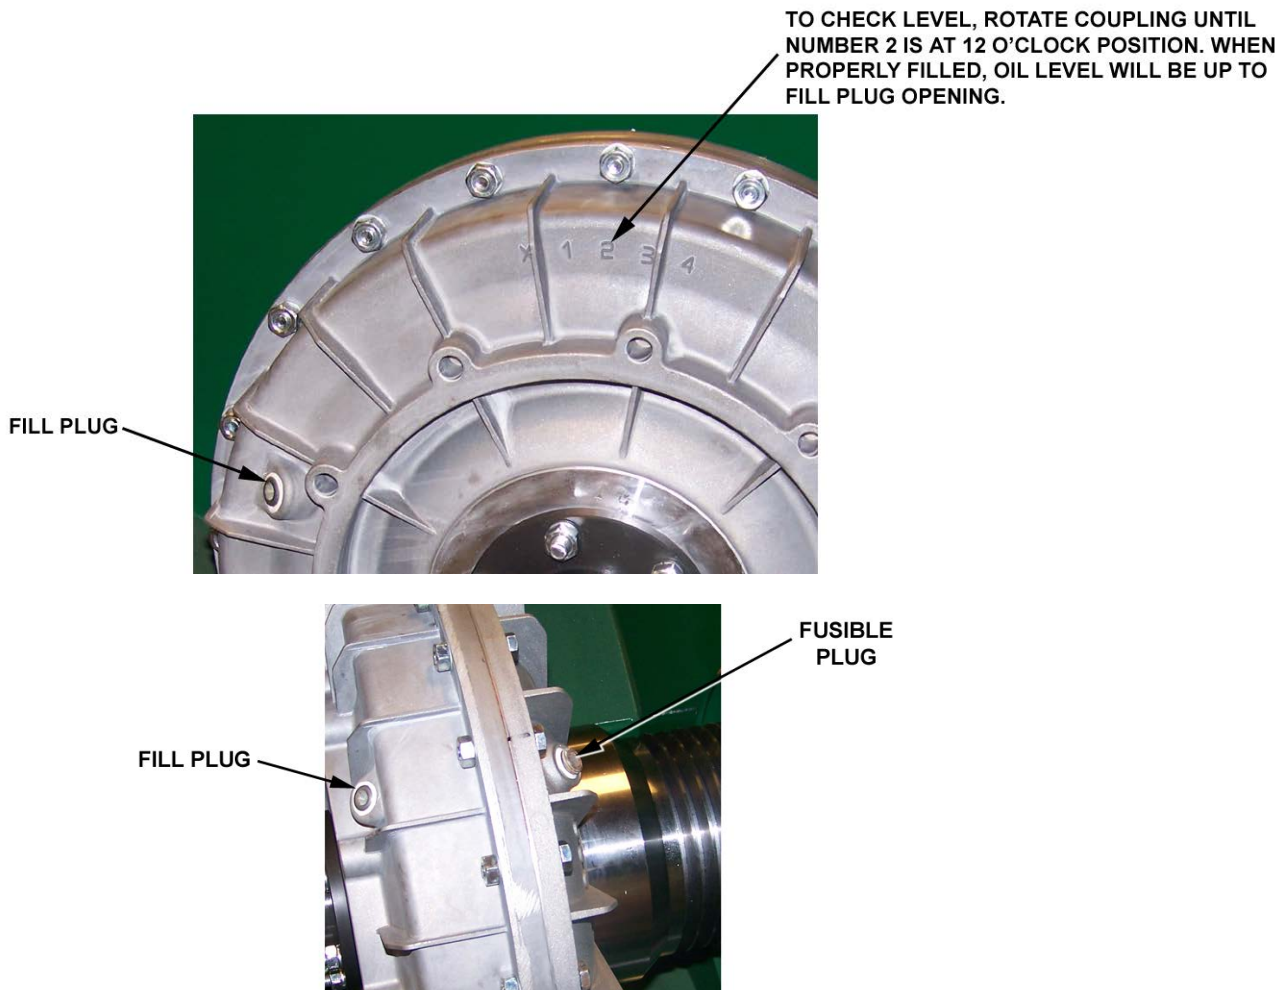

Figure 5-2 Checking and Filling Fluid Coupling
Check fluid coupling level (Figure 5-2).	Every 2 weeks
1. Rotate coupling until the number "2" on the housing is at the 12 o'clock position (Figure 5-2).